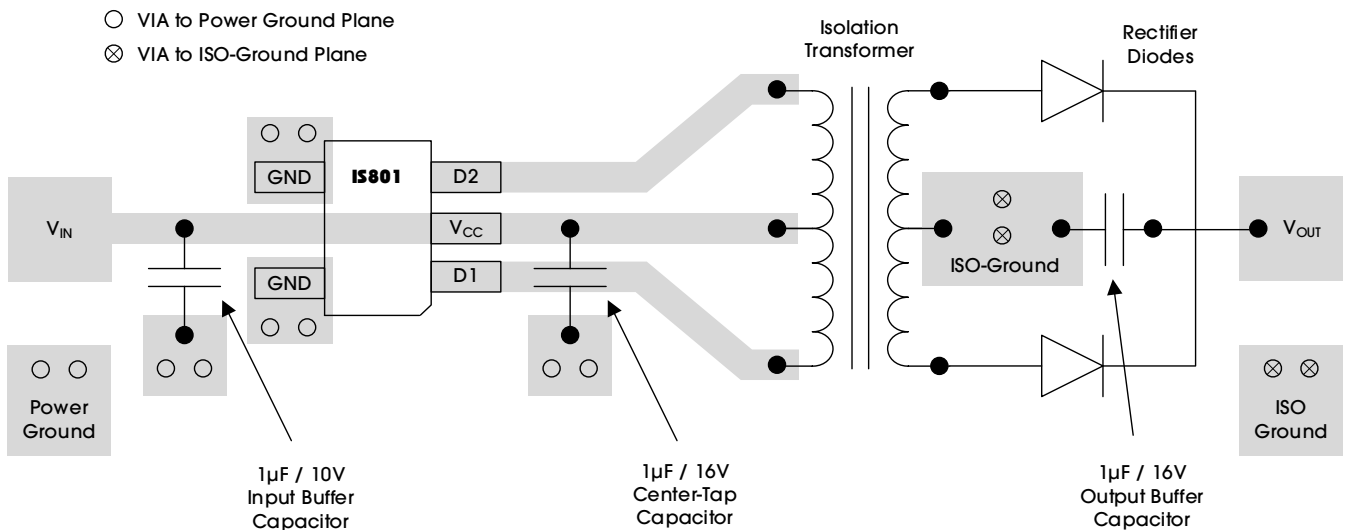

Figure 24. Layout Example of a 2-Layer Board (IS801)
- The optimum placement is closest to the V_{IN} and GND pins at the board entrance to minimize the loop area formed by the bypass-capacitor connection, the V_{IN} terminal, and the GND pin. See Figure 24 for a PCB layout example.